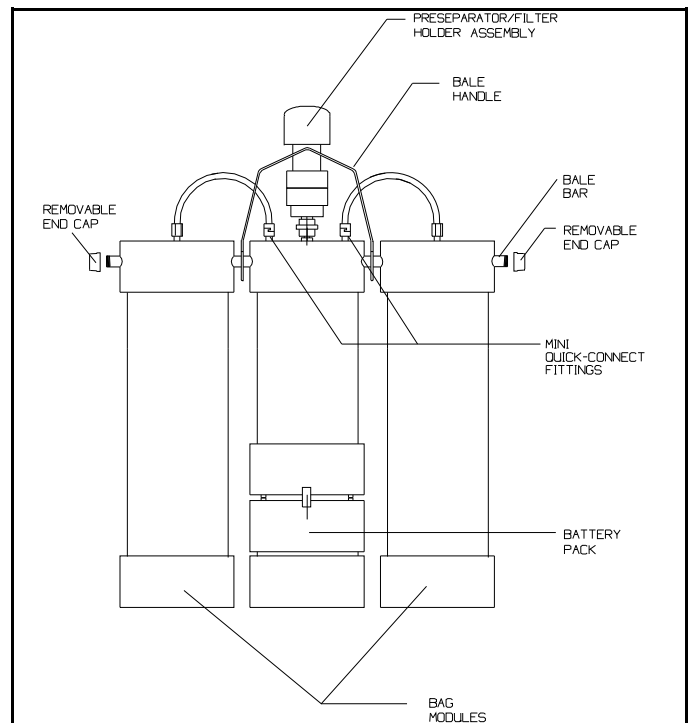

Figure 5.3. Attaching Bag Canisters and Tubing
4. Attach tubing from canisters to the mini quick-connect fittings on the sampler's 6" top cap (see Figure 5.3).